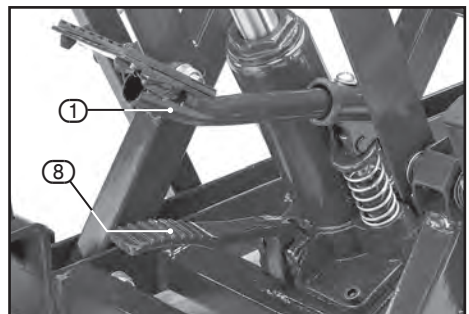

FIG.4
- Attach the hydraulic ram unit (6) to the lift base using the fixings provided. Noting that the unit will only attach in one orientation (FIG.4).
- Attach the handle (2) to the lift frame using fixing supplied.
- Locate the lift foot pedal (1) into the socket of the hydraulic ram unit (6.1) and secure using screw and washer (1.1).
- Extend the hydraulic ram unit, using the foot pedal (1) and lift the frame to allow the main pivot bolt (6.2) to be attached to the frame.
- Attach the rear castor wheels (3) to the frame.
### 8.2 BLEEDING THE HYDRAULIC SYSTEM – FIG.4